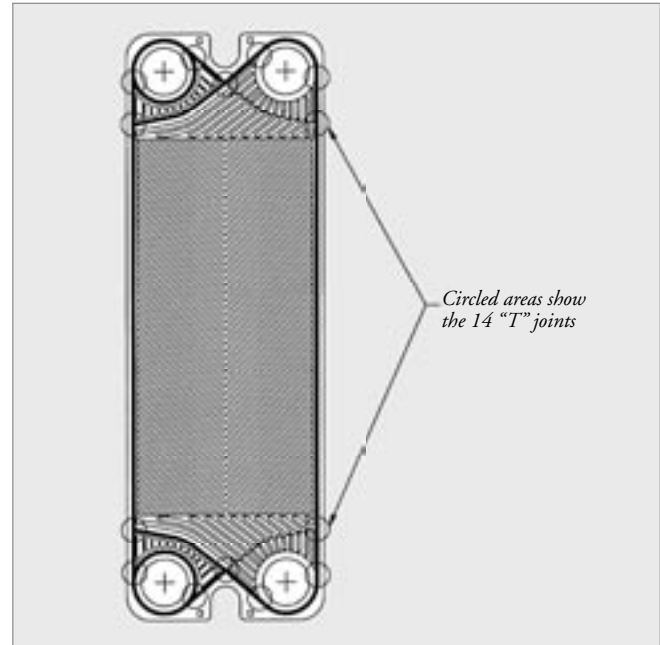

Figure 44
- b) Apply spots of glue at the "T" joints (see Figure 44).